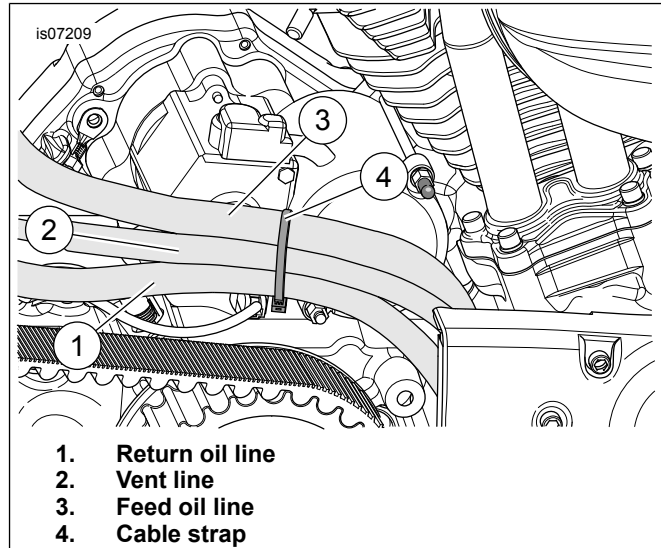

Figure 5. Cable Strap
7. See Figure 5. Using the cable strap (4), arrange the oil lines as shown and secure the cable tie around them.